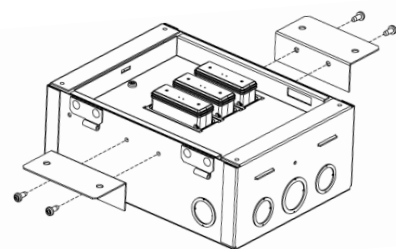

Figure 3
- 3) Attach both mounting brackets using four #8-32 serrated self-tapping screws included with kit. (Fig. 3)